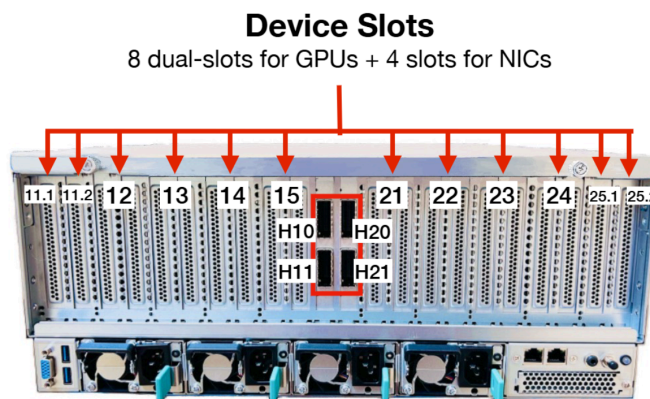

Figure 79. Pictures of Slot Number on the Chassis
B. Identify the corresponding Slot Number on the chassis to ensure you are configuring the correct physical port (Refer to Figure 79: Pictures of Slot Number on the Chassis):